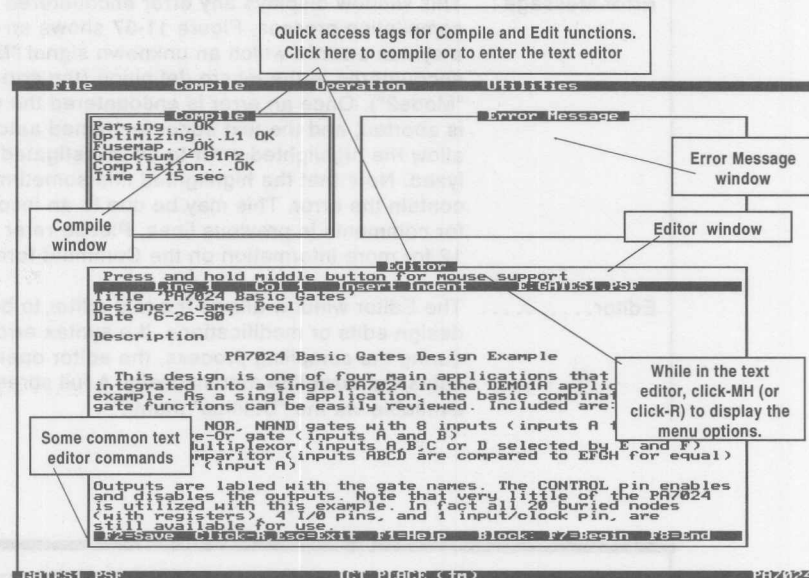

Figure 11-36. Compile Operation screen
There are three windows in the main screen of the Compile Operation (Figure 11-36). Each of these windows provides a specific function for the compilation of PLACE Source Files (PSF).
Optimizing - Implements logic transformation (converting complex equations into sum-of-product form) and reduction to the parsed PSF file, and outputs the results to a file with extension ".RED". The RED file is in the PSF format, hence it can be read into the Design Operation for analysis of the reduced equations. After optimization is completed, the reduction level implemented is displayed. For instance in Figure 11-36, the "L1" term in "Optimizing ...L1 OK" indicates that the reduction level L1 was used for the GATES1.PSF design, and the optimization process was successful (as indicated by the "OK").
- **The default option for the reduction level selection is "Auto 1-5".** The "Auto" reduction levels refer to the automatic increments of the reduction levels. For instance, the "Auto 1-5" means that the optimization process starts with reduction level 1. If the design does not fit the device after the completion of level 1, then it proceeds to level 2. If the design still does not fit the device, it proceeds to level 3 and so on until a fit occurs. Once the design achieves a device fit, the reduction level will be displayed in the Compile window (Figure 11-36).